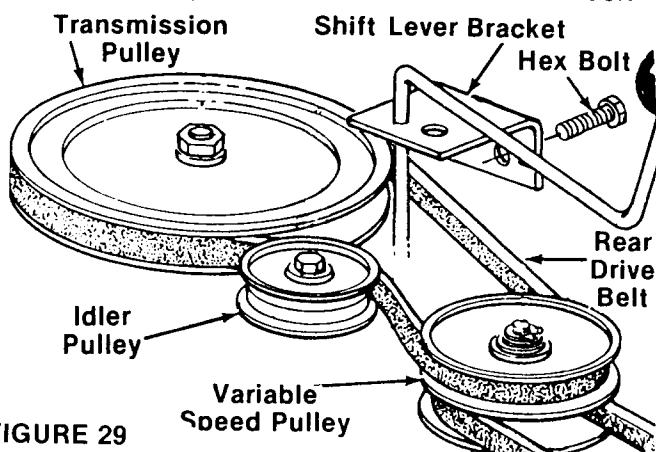

FIGURE 29
Figures 29 through 33 are shown with the unit tipped up for clarity. It is not necessary to tip the unit to remove the belts.
- Push the idler pulley toward the right side of the unit. Lift the belt over the idler pulley. See figure 29.
- Remove the two bolts which hold the shift lever bracket to the frame on the left side of the unit. Swing the bracket toward the right so that the belt can be removed from the idler pulley. See figure 29.